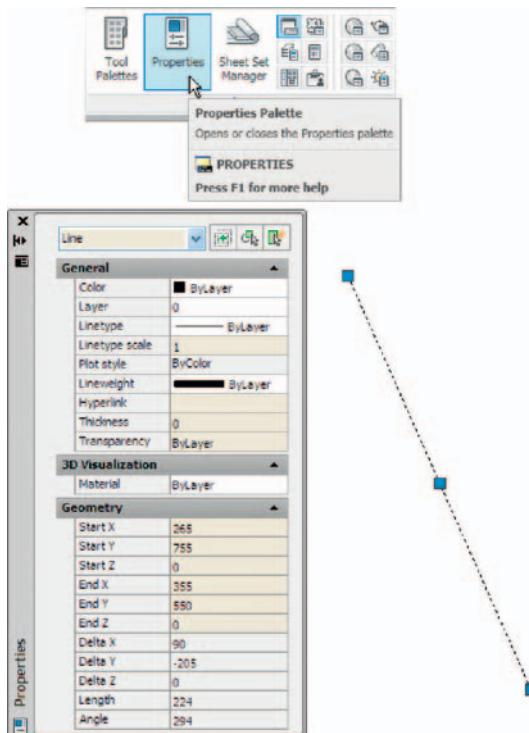

Fig. 1.12 The **Properties** palette
**Properties palette:** Fig. 1.12 shows the **Properties** palette, in which the general features of a selected line are shown. The line can be changed by *entering* new figures in parts of the palette.